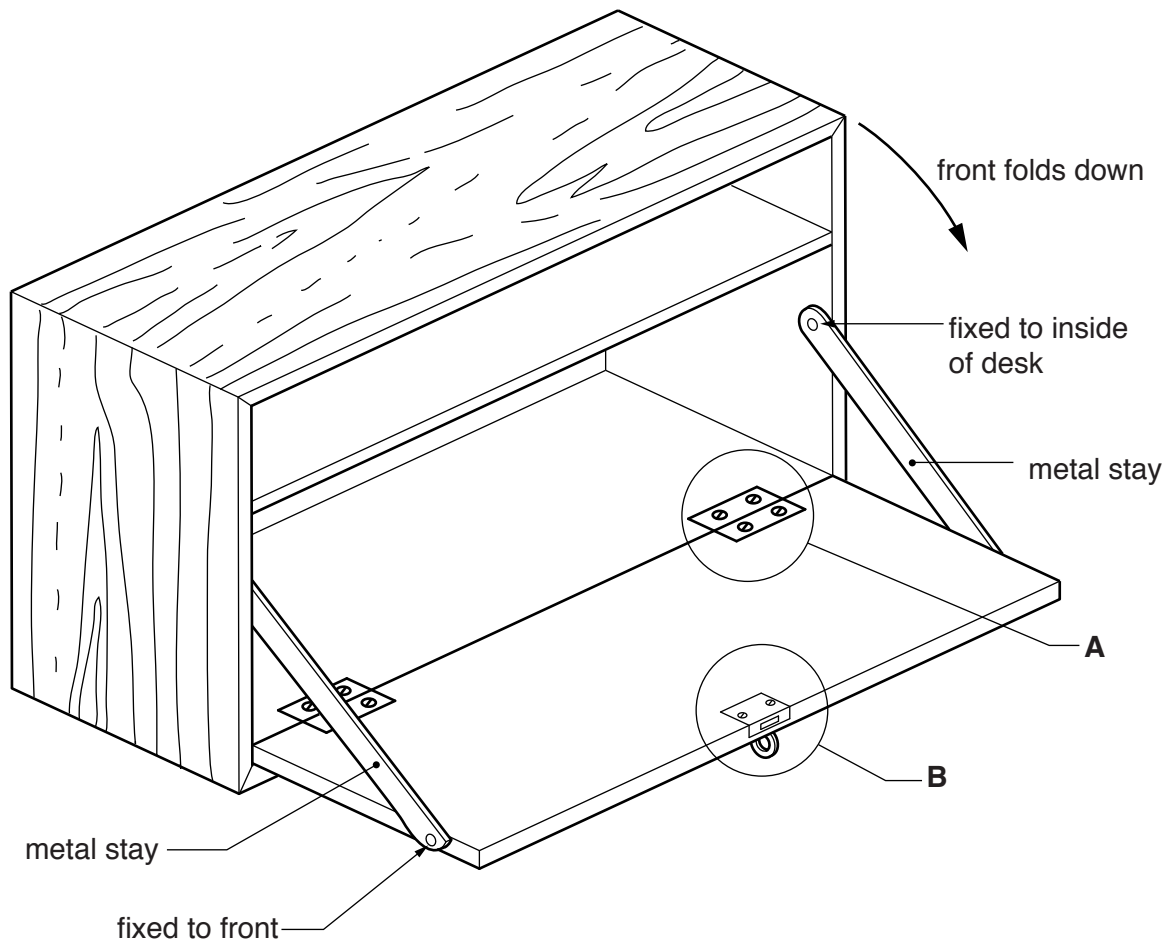

Fig. 6
- 6 Fig. 6 gives details about a wall mounted cabinet with a fold down front. Metal stays are used to hold the front of the cabinet in a horizontal position when it is open.